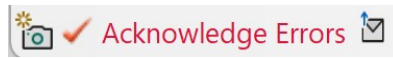

Figure 25: Bottom menu with “Record Dump” (left) and “Create Report” (right) button
In order to trigger a *TAM Snapshot* manually, a *Dump Event* event has to be triggered, which can be done by clicking on the camera symbol depicted in Figure 25 or by pressing F7.
1. Generate a Report. This can be done by clicking the “Create Report” button shown in Figure 25.